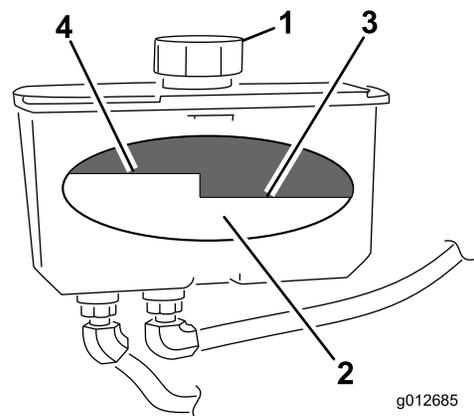

Figure 71
4. Clean area around cap and filler neck of hydraulic tank (Figure 71).
- Remove cap from filler neck. Look inside to check the fluid level in the reservoir. (Figure 71).
Note: The fluid level should be to the top of the hot level of the baffle, when the fluid is warm (Figure 71).